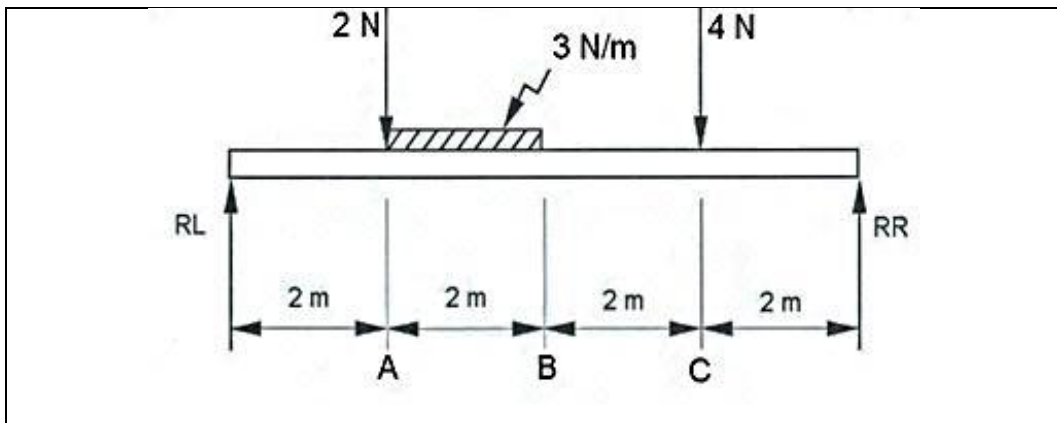

FIGURE 2.1
2.1 You are an engineer and have to design a crossbeam for the factory. The beam is subjected to two point loads and one UDL and is supported at both ends by RL and RR as indicated in FIGURE 2.1.